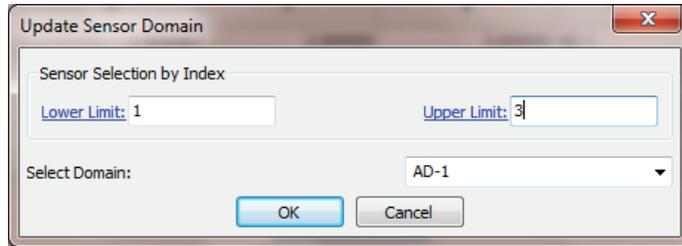

Figure 7.33 Sensor Update Domain window.
**7.3.3.2. Update Domains** This button appears only for sensors in *Multidomain* models. The domains associated with sensors can be changed separately by selecting a domain name from the drop down menu under the column **Domain**. You can also change the domains associated with a group of sensors (filtered through their indices) through **Update Domains** button. Update Sensors Domain window opens up with the following options when you click on the button. Figure 7.33.